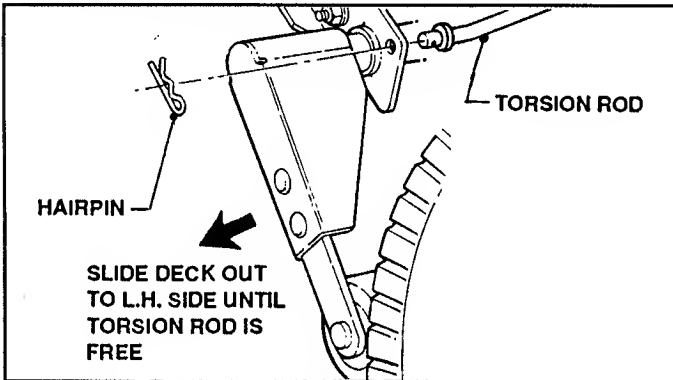

FIGURE 40
2. Remove hairpin from end of torsion rod as shown in Figure 40. Slide deck towards L.H. side until torsion rod is free of deck.